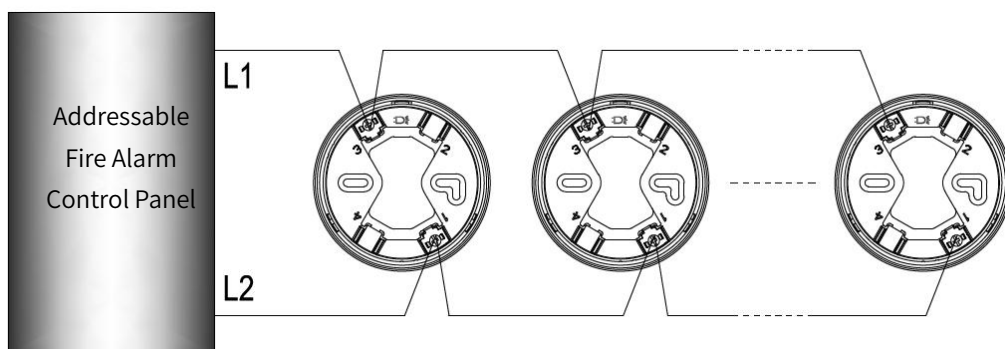

Figure 3
5.2 Wiring mode: The detector is connected to the compatible fire alarm control panel via the two-wire bus, and the non-polar connection is adopted. The L1 and L2 of the two-wire bus are connected to the terminal 1 and 3 of the mounting base. The wiring diagram of multiple detectors and control panel is shown in Figure 3.